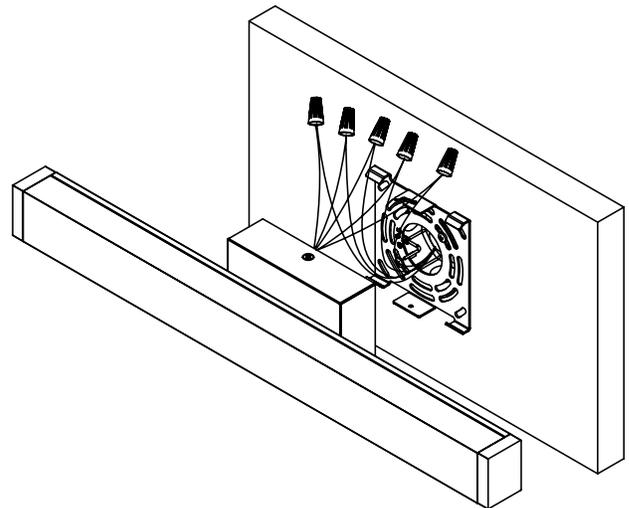

Fig. 2
2. Connect wires according to the wiring diagram above and as shown in Fig. 2.